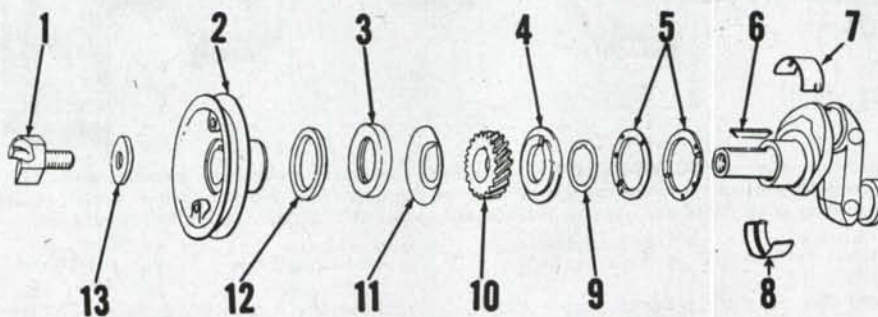

Fig. AC43—Model G crankshaft showing shims (9) for adjusting end play.
98. Shaft is supported on two shimless, non-adjustable, slip-in, precision type main bearings, renewable from below, without removing the crankshaft. Bearing caps are installed with the numbers facing the camshaft. Crankshaft end play is controlled by shims (9—Fig. AC43), at number one journal and should be checked with all parts in place, including the crank jaw. Recommended end play is .003-